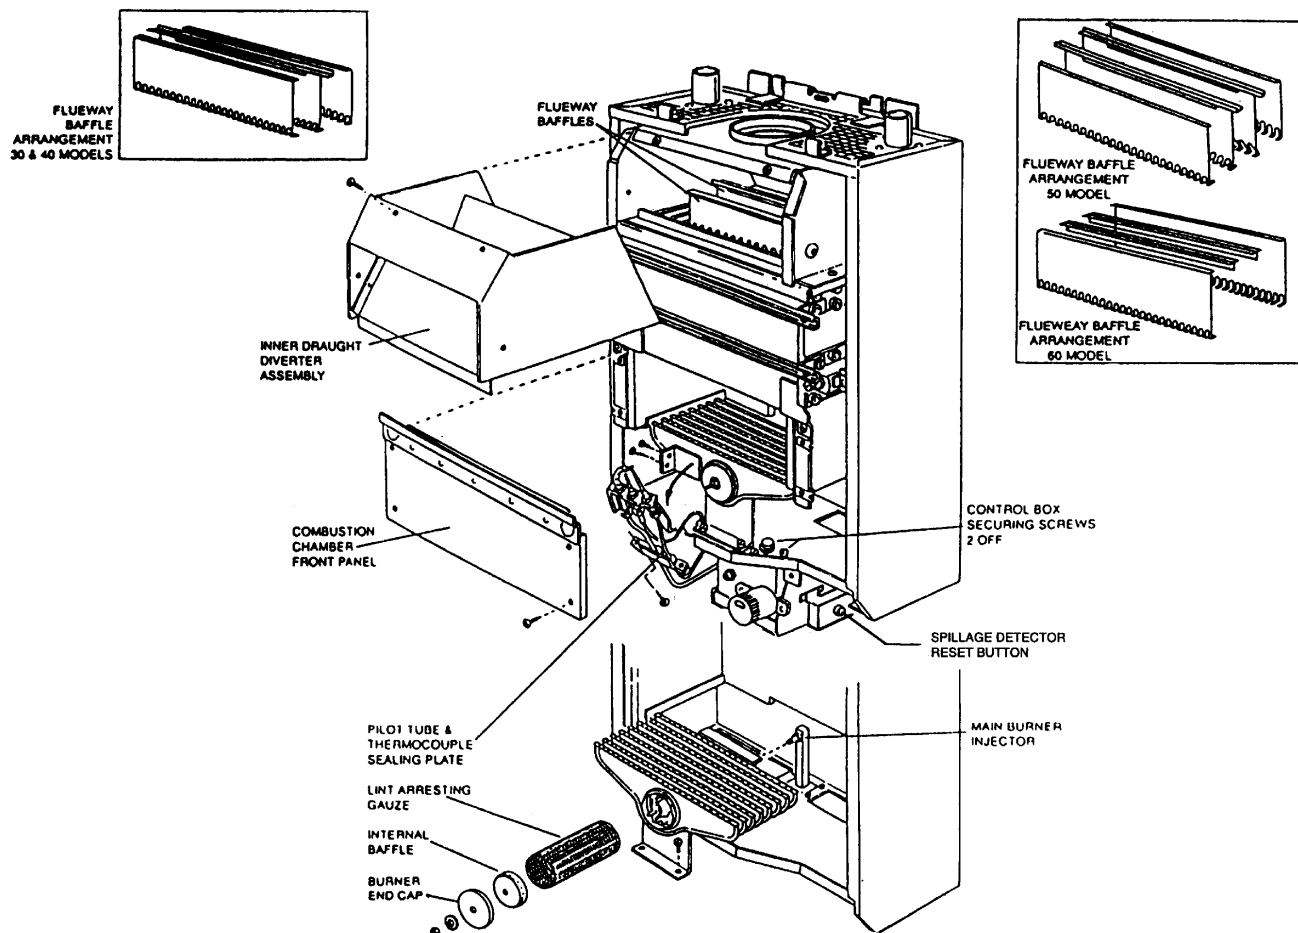

Figure 21 PREPARING THE BOILER FOR SERVICING
See Fig 21
- E. Remove the four securing screws and withdraw the inner draught diverter assembly from the mouth of the draught diverter. See Fig 21.
- E. Unscrew the MS nut securing the burner cap and remove end cap. Withdraw the internal baffle and gauze from within burner. See Fig 21. Thoroughly clean the gauze using a brush or vacuum cleaner. Clean all deposits from the surface of the burner flame strip with soft brush or vacuum cleaner and ensure there is no fluff in the entry of the burner venturi.
Working from above and below the heat exchanger use a suitable brush and remove all deposits from between the fins. When cleaning the front flueway protect the insulation inside the upper front panel by passing the front baffle into the flueway as illustrated in FIG. 21 B.
Refit the main burner ensuring it is correctly engaged onto the rear injector. Replacement of the other components is the reverse of removal. Ensure that the flueway baffles are refitted as illustrated in Fig 21 and the sealing plate and split grommets form a tight seal around the pilot tube and thermocouple capillary.
Refer to Fig 21 and carry out the following
- c Access to the pump over-run thermostat is made easier by separating the upper assembly of the control box from the boiler base. This is done by removing the two hexagonal head screws identified in Fig 21 Tilt the upper assembly and disconnect the electrical wiring from the thermostat as follows:-
- e Access to the boiler thermostat is made easier by separating the upper assembly of the control box from the boiler base. This is done by removing the two hexagonal head screws identified in Fig. 21. Tilt the upper assembly and disconnect the electrical connections from the rear of the thermostat as follows:-